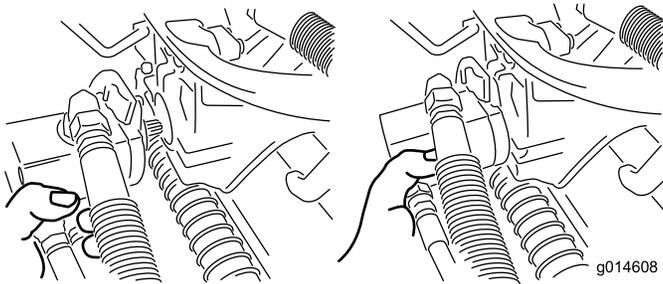

Figure 34
- Move the motor to the storage location on the front of the suspension arm (Figure 34).